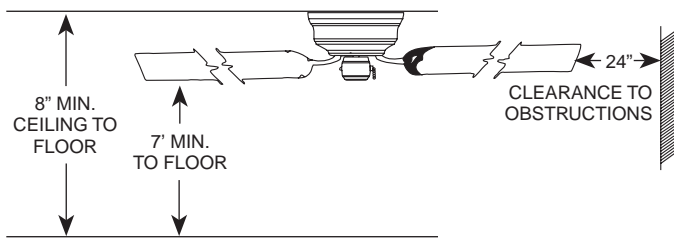

FIGURE 1
B. Installation hardware is included for a standard drywall or plaster ceiling. You will need a 4" x 1-1/2" or 4" x 1/2" octagon outlet box and wire nuts (3) which can be purchased from any hardware store or electrical supply house.
C. The fan blades must be mounted at least 7' above the floor. For maximum efficiency, they should not have any obstruction (walls, posts, etc.) within 24" of the blade tips. See Figure 1 for mounting distances.